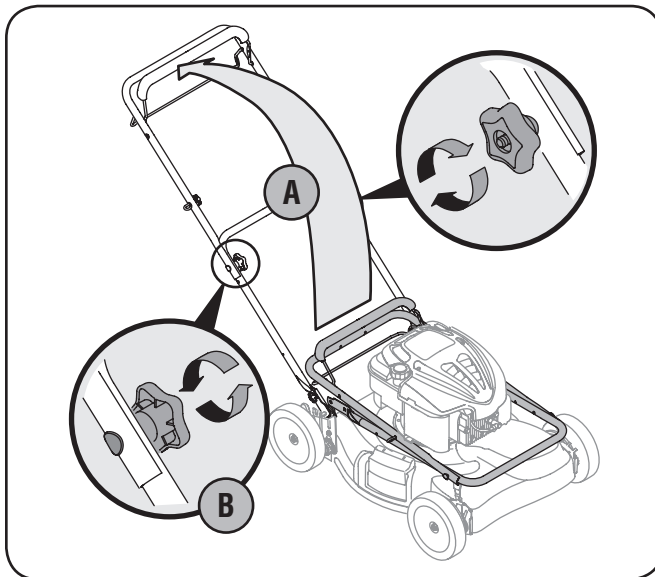

Figure 3-1
- a. Pull up and back on upper handle as shown in Fig. 3-1. Make certain the lower handle is seated securely into the handle mounting brackets. Do not crimp cables while lifting the handle up.